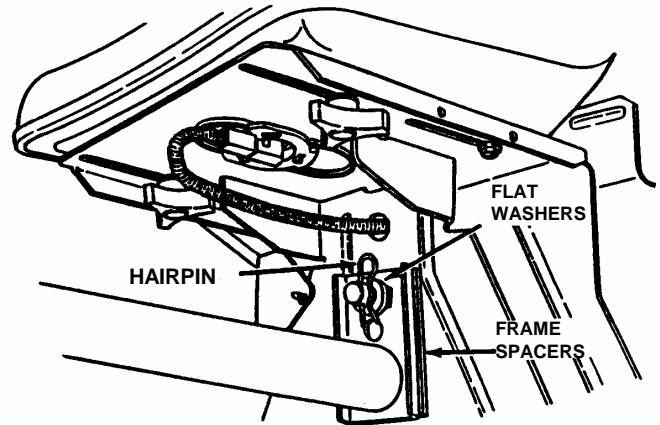

FIGURE 4.2
5. Remove hairpin and flat washers from pivot stud. See Figure 4.2.
8. Reinstall the required amount of flat washers removed in step "5." and install hairpin. See Figure 4.2. Retain any remaining spacers for readjustment when a new belt is installed.